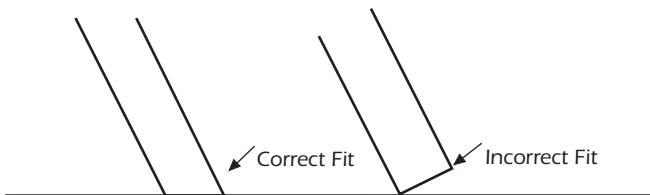

Fig. 8
Step 11– Draw a straight line between the points. Cut each bottom stringer to the proper length, along the lines drawn. The bottom section of the stairs should fit flush with the floor on both sides after cutting. (See Fig. 8)